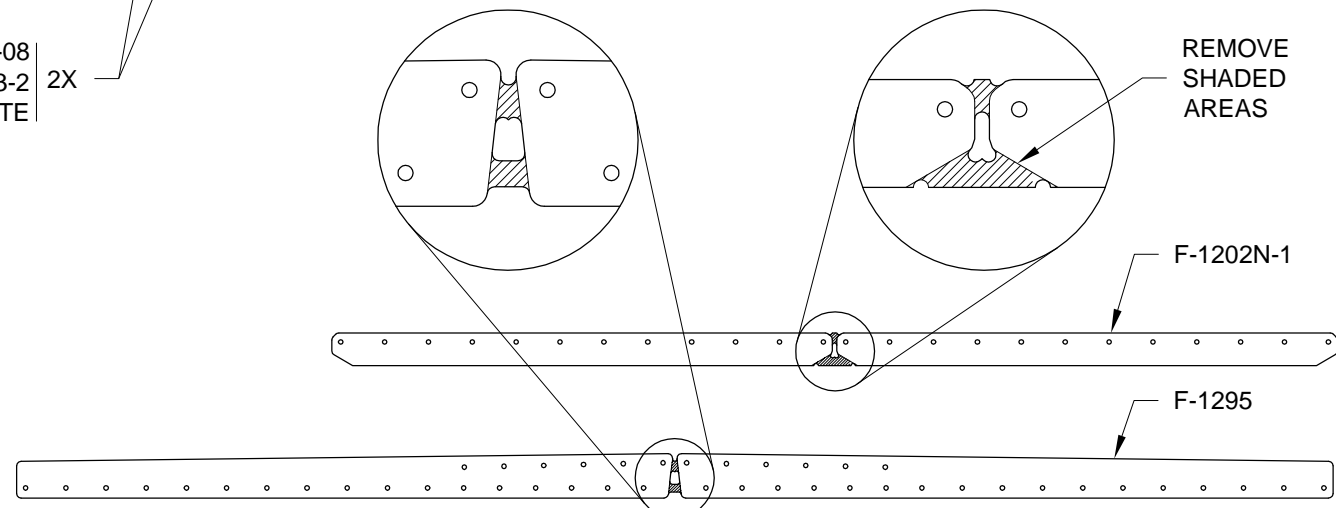

FIGURE 2: SEPARATING STIFFENERS
Step 5: Separate F-1202N-1 Fwd Skin Stiffener into F-1202N-1-L & -R and F-1295 Skin Stiffener into F-1295-L & -R as shown in Figure 2.